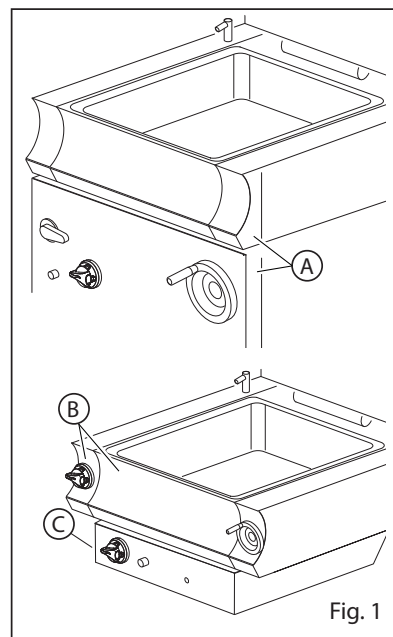

Fig. 1
- Close the cut-off cock upstream the machine (Fig. 1);
- Close the cut-off cock upstream the machine (Fig. 1).
- Replace the pilot injector (Fig. 1) with the one corresponding to the selected gas according to what reported in the reference Table (see Gas reference Table).
- Replace the injector (Fig. 1) with the one corresponding to the selected gas according to what reported in the reference Table (see Gas reference Table).
- Unscrew the locking screw (Fig. 1).
- Where required set the distance (X) mm of the bushing corresponding to the selected gas (see Gas reference Table).
1. Remove the panel and front (Fig. 1/A - Top version Fig. 1/B+C)